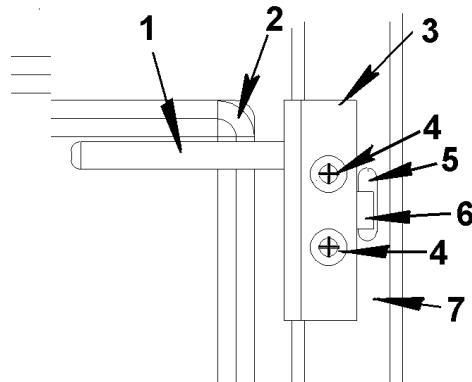

Figure 243 Hinge Pin Assembly
- 14. Mount pin assembly flat and ensure that pin is straight (Fig. 243, Item 1).